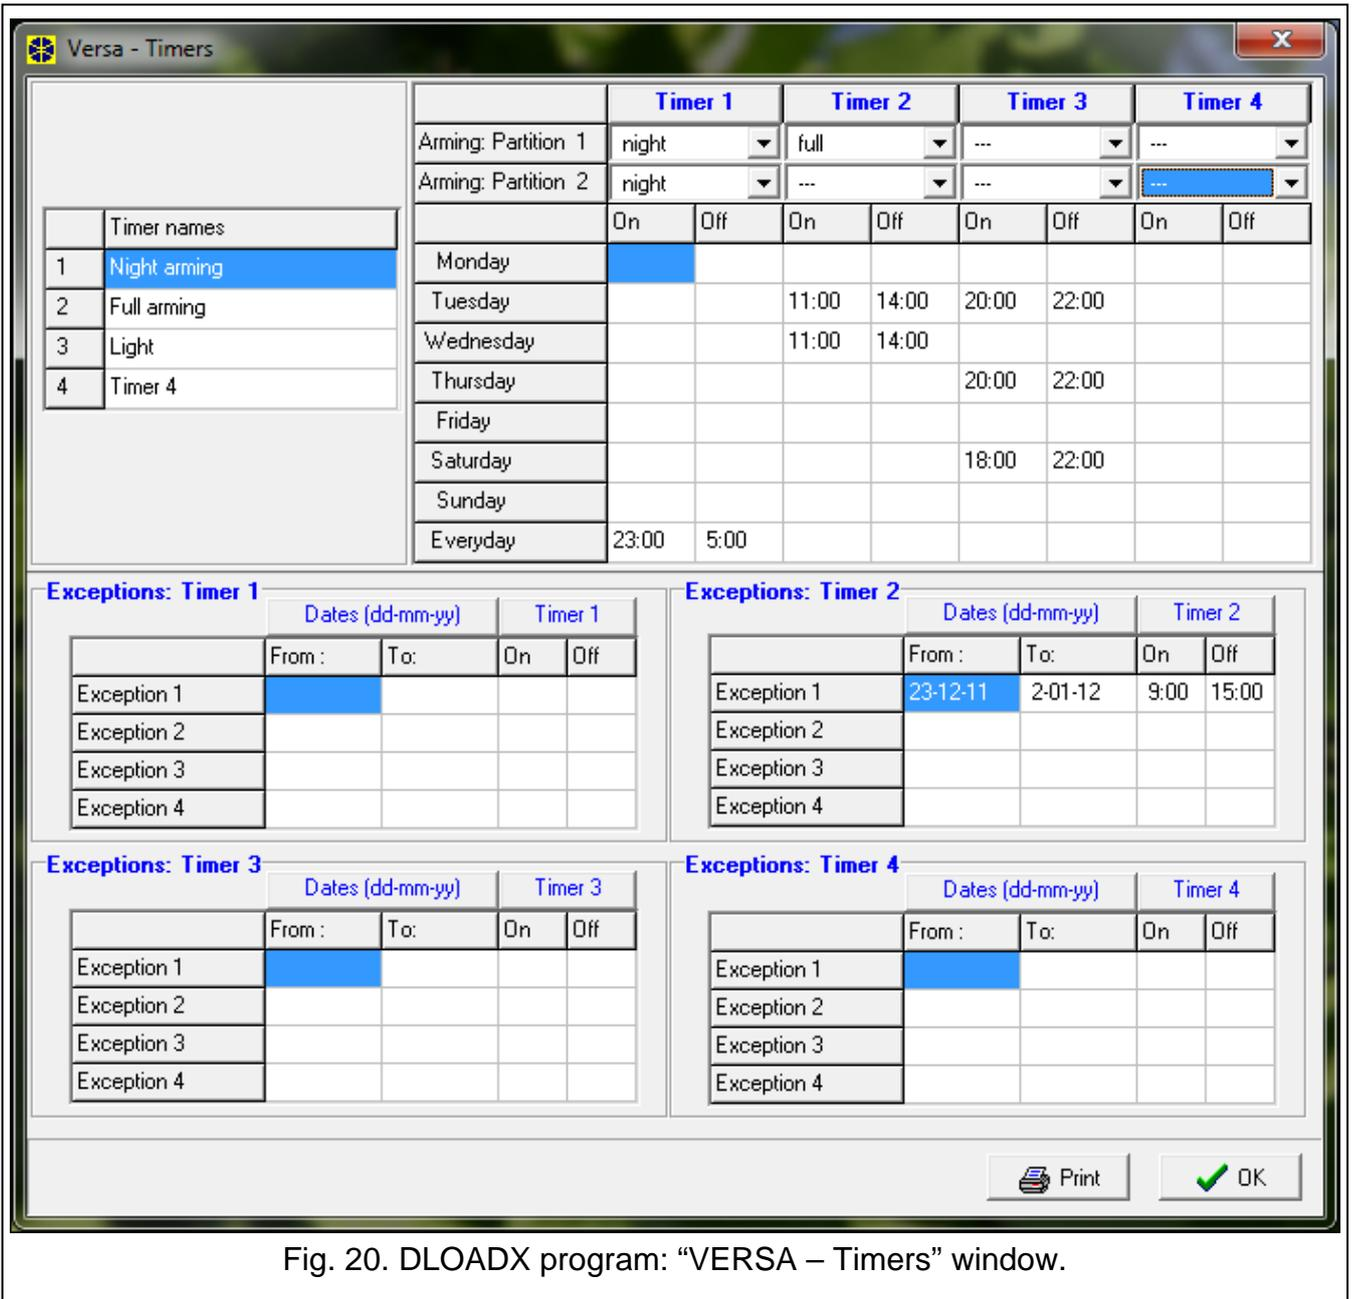

Fig. 20. DLOADX program: “VERSA – Timers” window.
- DLOADX program: “VERSA – Timers” window (Fig. 20).